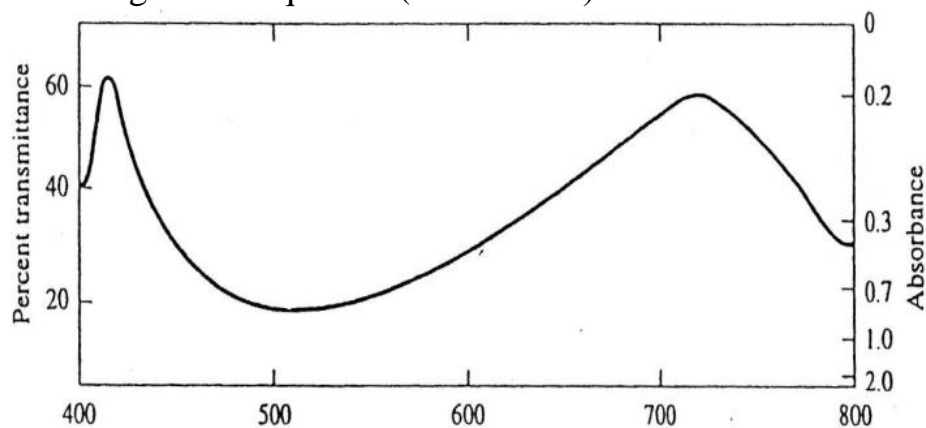

Figure 1: The absorption spectrum of the Fe³⁺-salicylate complex.
When we see an object as purple, in fact it absorbs light in the “green” region of the spectrum: only blue and red wavelengths reach the eye, which we experience as the purple color, the ASA-Fe³⁺ complex formed in the analysis of aspirin absorbs wavelengths in the blue, green and yellow regions of the spectrum, as shown in figure 1. Only violet and red light are “transmitted”, as a result, the human eye sees the transmitted light as a mixture of violet and red, which we experience as a deep purple, a spectrum shows how much light is absorbed for a range of wavelengths, in UV/VIS spectrophotometer we plot the **Absorbance (A)** of a solution against the wavelength of the light reaching the solution (λ), this is called the **absorption spectrum**, the higher the analyte concentration, the more light at a certain wavelength will be absorbed, the relation between Absorbance **A** and analyte concentration **C** is given in equation (Beer’s Law):- $A = \epsilon I C$
In Fig.1 note that Transmittance percentage (**T%**) is plotted on the left (linear scale), Absorbance (**A**) on the right (logarithmic scale), the absorbance maximum is at approximately 510 nm (λ_{\max}), the spectrophotometer takes the place of the human eye by accurately measuring the intensity of the light transmitted at each wavelength, for spectrophotometer in the visible region the **light source** is a common tungsten light bulb emitting “white” light, the light is collimated and focused on an entrance slit (via a system of mirrors) the light falls on a **monochromator**, that separates the white light in its constituent wavelengths, the monochromator can be a **glass prism**, but in modern instruments it will be a **grating**, from the monochromator the light is sent through the sample holder a **cuvette**, and finally reaches a **photocell (detector)** that measures the intensity of the light at each specific wavelength, and recorded as absorbance **A** or the transmission **T** (or **%T**) vs (λ) or (**C**) by output (**readout**).